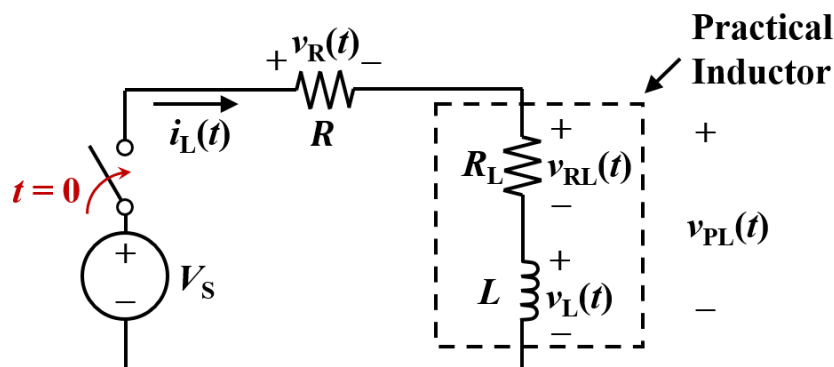

Figure 1: A circuit consisting of a practical inductor in series with a resistor.
- Figure 1 shows a circuit consisting of a practical inductor in series with a resistor.
- For the circuit shown in Figure 1, what are the values of $i_L(t = 0^-)$ and $i_L(t = 0^+)$? What is the value of $i_L(t = \infty)$? Write down the expression for $i_L(t)$ for time $t \geq 0$. Pay close attention to what is the correct expression to use as the time-constant τ . (Hint: It is no longer $\frac{L}{R}$ for this circuit.)
11. When you are satisfied with the captured waveform, turn on the cursors in the "Scope Selectors (2)" panel. Use the horizontal orange cursor to measure the amplitude of the square waveform. This is taken to be the DC voltage supply's V_S (see Figure 1). Using the expression given in Step 3, calculate $v_{PL}(\tau)$.